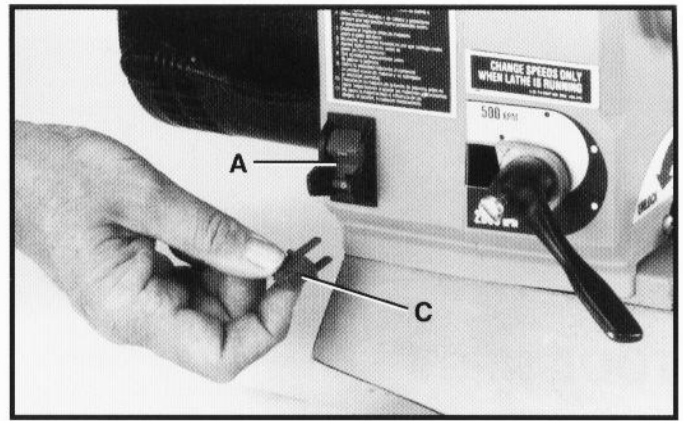

Fig. 22
We suggest that when the wood lathe is not in use, the switch be locked in the "OFF" position. This can be done by grasping the switch toggle (C) and pulling it out of the switch (A) as shown in Fig. 22. With the switch toggle (C) removed, the switch will not operate. However, should the switch toggle be removed while the wood lathe is operating, the switch can be turned "OFF" once, but cannot be restarted without inserting the switch toggle (C).